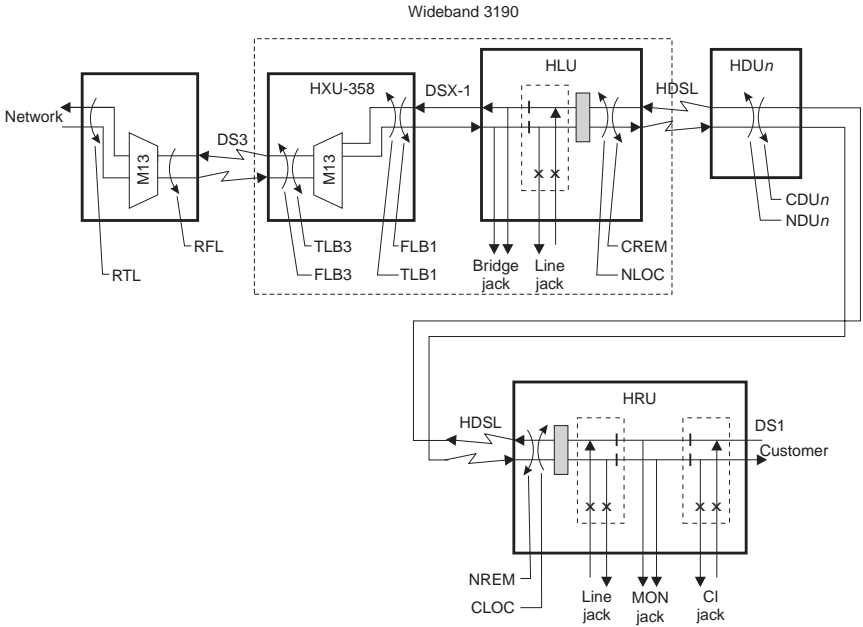

Figure 29. System Loopbacks in Wideband 3190 Applications
- 2 Press the **SPACEBAR** to cycle through the available loopback selections. See Figure 29 on page 43 and Table 8 on page 44 for a description of loopbacks.